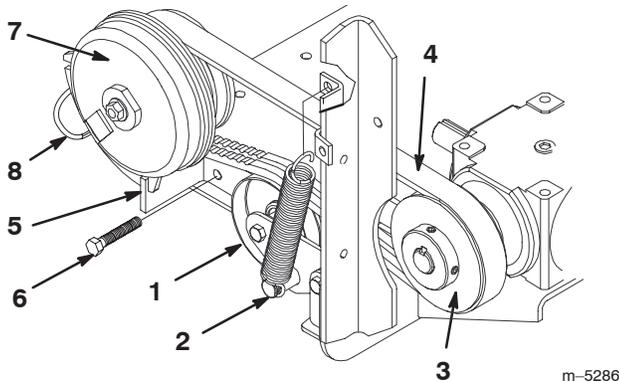

Figure 90
1. Using a rag or thickly padded glove, hold spring loaded idler against belts and pull spring down to remove from idler stud (Fig. 90).
2. Lower idler to relax tension on PTO belt and remove belt from gear box pulley (Fig. 90).
3. Remove clutch stop mounting bolts and unplug clutch wire harness (Fig. 90). Remove belt over clutch.
5. Hold spring loaded idler against belts and pull spring down to install on idler stud (Fig. 90).
6. Install clutch stop (Fig. 90). Tighten mounting bolts securely.